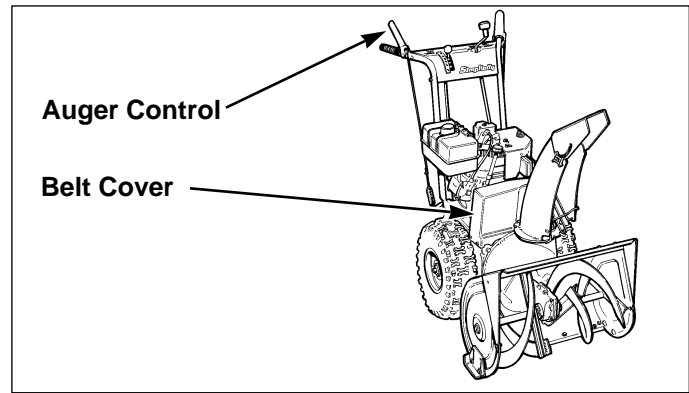

Figure 21. Auger Control and Belt Cover Location
3. Remove belt cover (See Figure 21 on page 18).